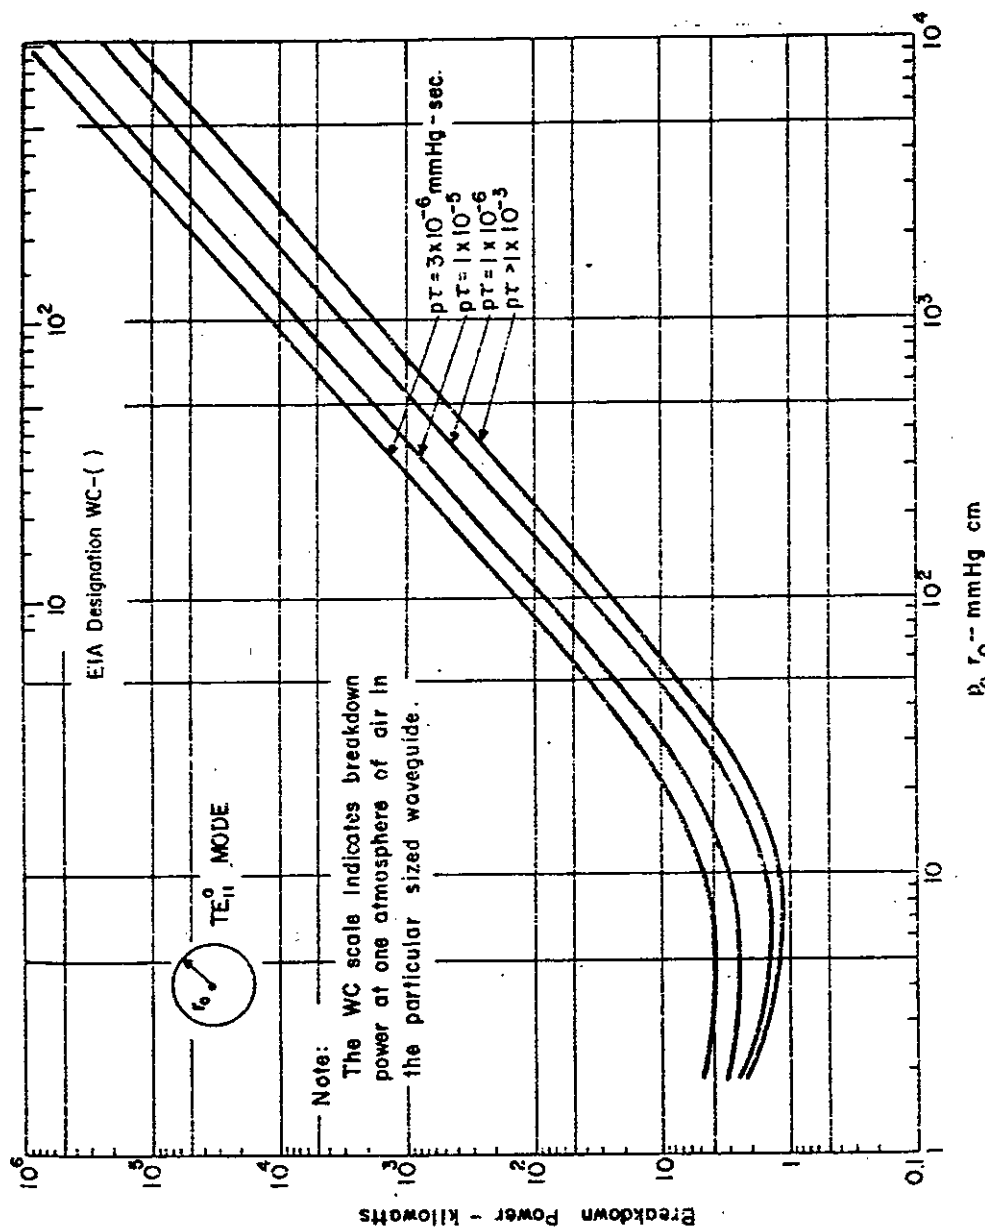

FIGURE 6.10. Single pulse breakdown power for air filled circular waveguides,  $TE_{11}$  mode.
6.3.4 Circular waveguide power handling capabilities. Power handling capabilities of standard circular waveguides are given in figures 6.10 through 6.15.